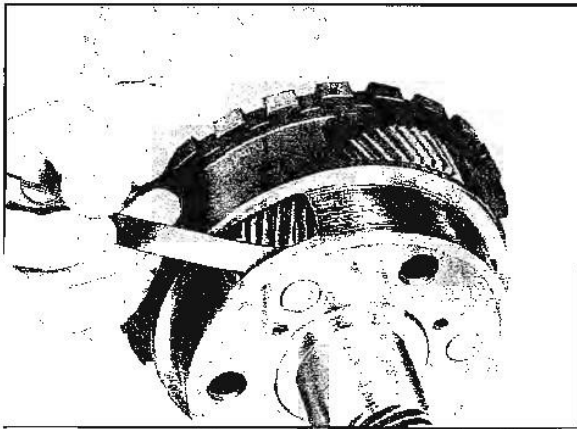

Fig. 7B-84 Checking Planet Pinion End Clearance
3. Check end clearance of planet pinions. This clearance should be .006 - .030" (Fig. 7B-84).